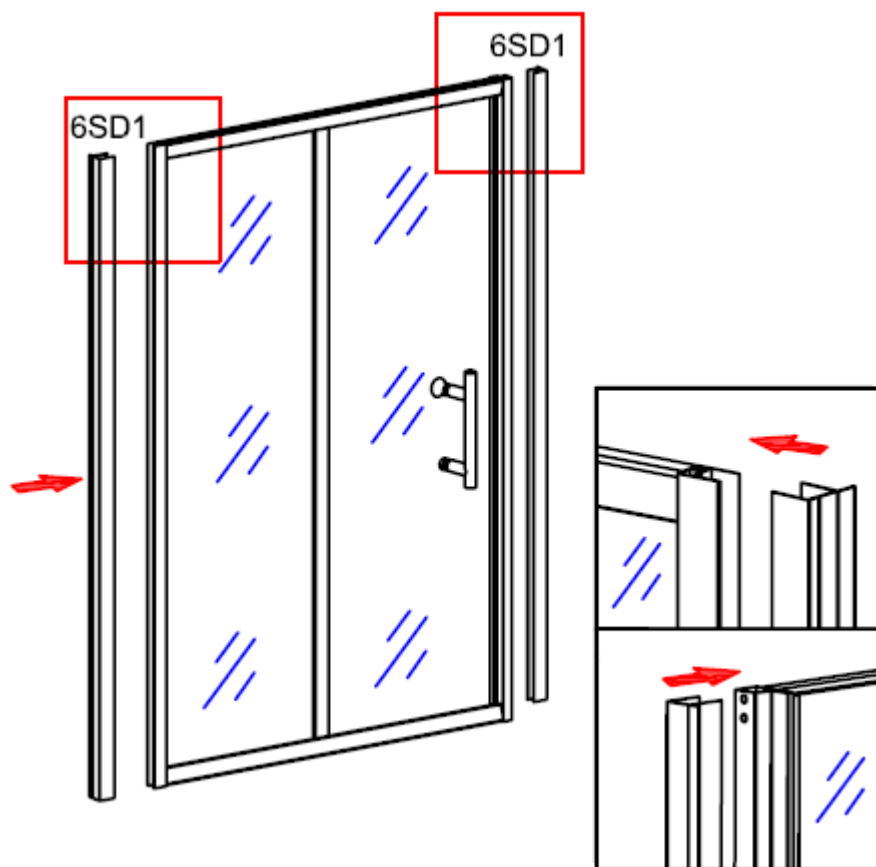

Figure 9
9. Connect the wall profile(6SD1) with the door set,as showed in figure 9.